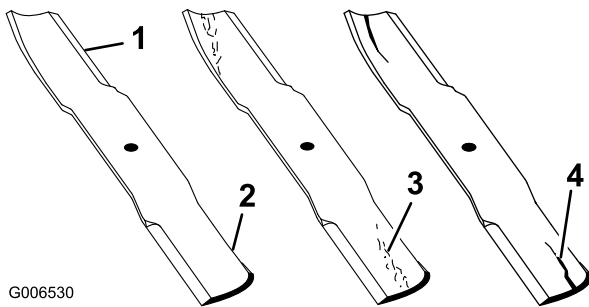
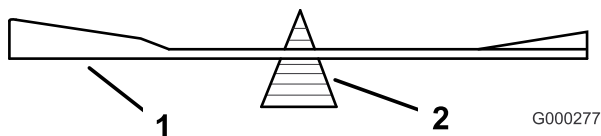

Figure 47
Figure 51
1. Inspect the cutting edges (Figure 47). If the edges are not sharp or have nicks, remove and sharpen the blades. Refer to Sharpening the Blades (page 36).
2. Inspect the blades, especially the curved area (Figure 47). If you notice any cracks, wear, or a slot forming in this area (item 3. in Figure 47), immediately install a new blade.
- Check the balance of the blade by putting it on a blade balancer (Figure 51). If the blade stays in a horizontal position, the blade is balanced and can be used. If the blade is not balanced, file some metal off the end of the sail area only (Figure 47). Repeat this procedure until the blade is balanced.